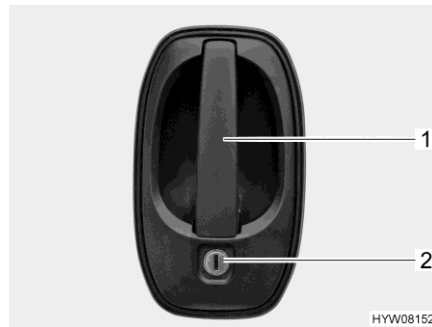

Fig. 33 Door lock (driver's door/ living area door, outside)
- Insert the key into locking cylinder (Fig. 33,2) and turn until the door lock is unlatched.
- Pull on the door handle (Fig. 33,1). The door is open.
- Insert the key into locking cylinder (Fig. 33,2) and turn until the door lock is engaged.